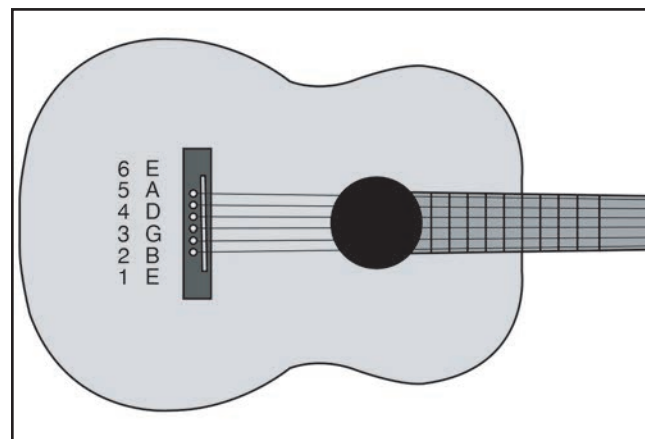

Figure 34. String tuning notes.
- The goal when tuning is to make the strings in tune with one another. Standard tuning is shown in **Figure 34**.